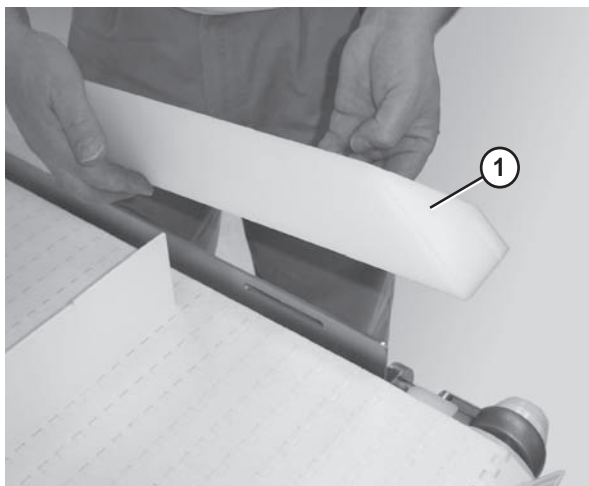

Figure 52
2. Remove the guide (**Figure 52, item 1**).